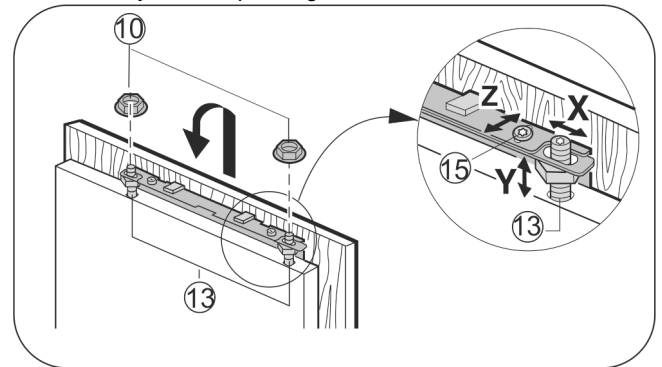

Fig. 31
- Attach the unit door on the adjusting bolts Fig. 31 (13) and loosely screw locknuts Fig. 31 (10) onto the adjusting bolts.
- To align the unit door in the Y direction (height) and in lateral inclination: Adjust the adjusting bolts Fig. 31 (13) with a screwdriver.
- Tighten the locknuts Fig. 31 (10).